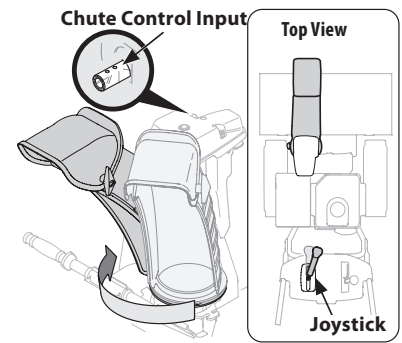

Figure 2-30
4. Squeeze trigger on joystick and rotate chute by hand to face forward. The holes in chute control input will be facing up. See Figure 2-30.
7. Check that cables are properly routed through cable guide on top of engine. See Figure 2-30.